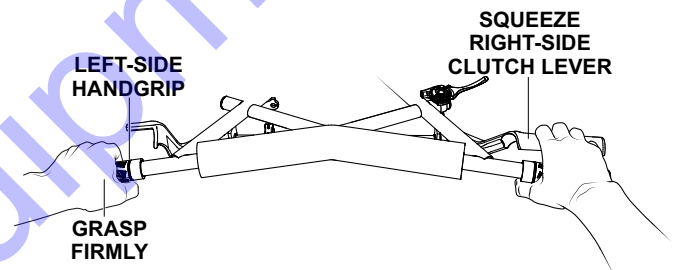

Figure 3. Engaging The Clutch
6. Firmly grasp the **left-side** handgrip, **squeeze and hold right-side** clutch lever (Figure 3) to engage the clutch.